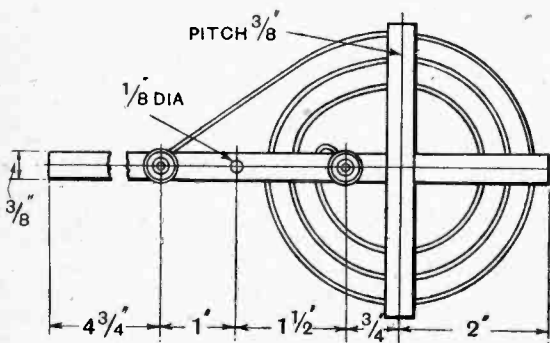

Fig. 6.—The "fixed-tune" aerial coil.
**Fig. 6.—DETAILS OF ASSEMBLY.** (A) Anode condenser; (B) and (C) Terminals of condenser; (D) Junctions between sections; (E) 1/4 in. ebonite end plates; (G) and (F) Brass clamping brackets and rods; (H) Nuts on ends of rods for attaching condenser; (I) Oscillator valve holder; (J) Oscillator valve filament resistance; (K) Grid condenser; (L) Wire wound grid leak; (M) Ebonite spacers; (N) Holding down nut; (O) Grid circuit tuning condenser; (P) Keying terminals, bridged for telephony; (Q) Modulating choke, held down by strap; (R) Grid cells.
The construction of the three-turn aerial coupling coil should be clear from the sketch in Fig. 6, as it consists merely of an ebonite support pivoted on one of the formers of the stator. The pivot for the coil is a 1 in. length of 4 B.A. rod tapped into one of the stator formers remote from the dial. The coil is lifted free from the variometer by a spring washer, and is held in position by locknuts.